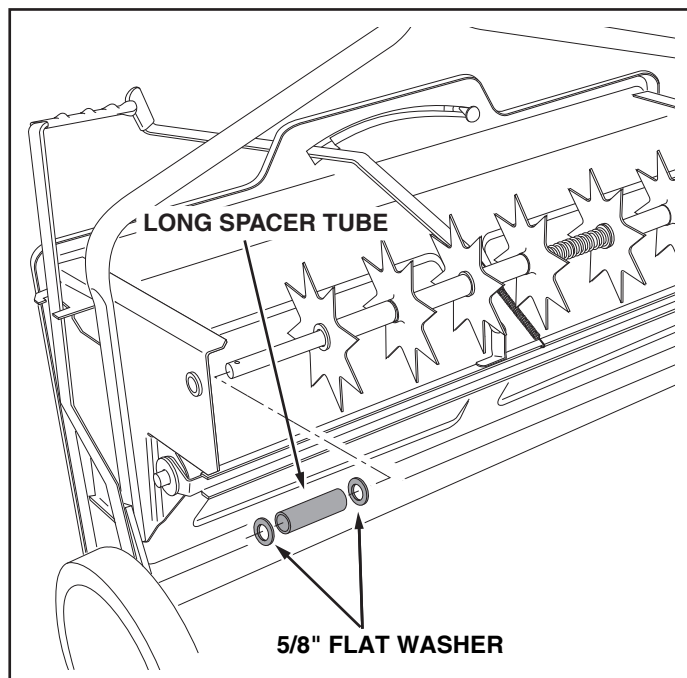

FIGURE 20
- Place two 5/8" flat washers separated by a long spacer tube onto the shaft. See figure 20.